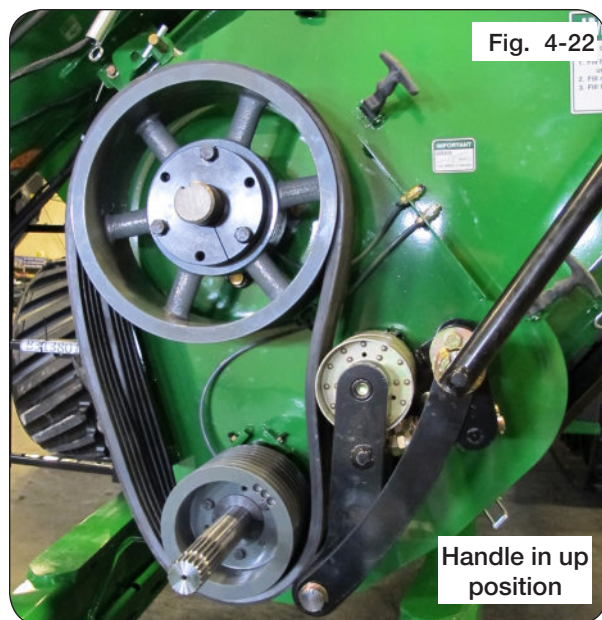

Fig. 4-22
6. Check the lower belt pulley to ensure belt is aligned in their grooves and with the belt tensioner handle, engage the roller/idler linkage against the belt and over-center stop. The compressed spring should now be approximately $1 \frac{3}{4}$ " between the washers and generating a force of approximately 480 lbs. against the belt. (Fig. 4-22)
7. Release and tighten belt multiple times to confirm positions and final adjustments. See Fig. 4-22 and Fig. 4-23.